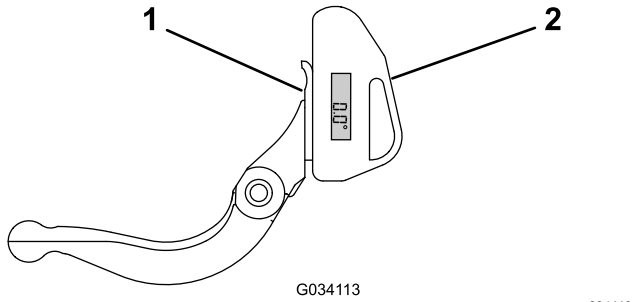

Figure 66
1. Place the angle indicator on the bottom side of the bedknife as shown in Figure 66.